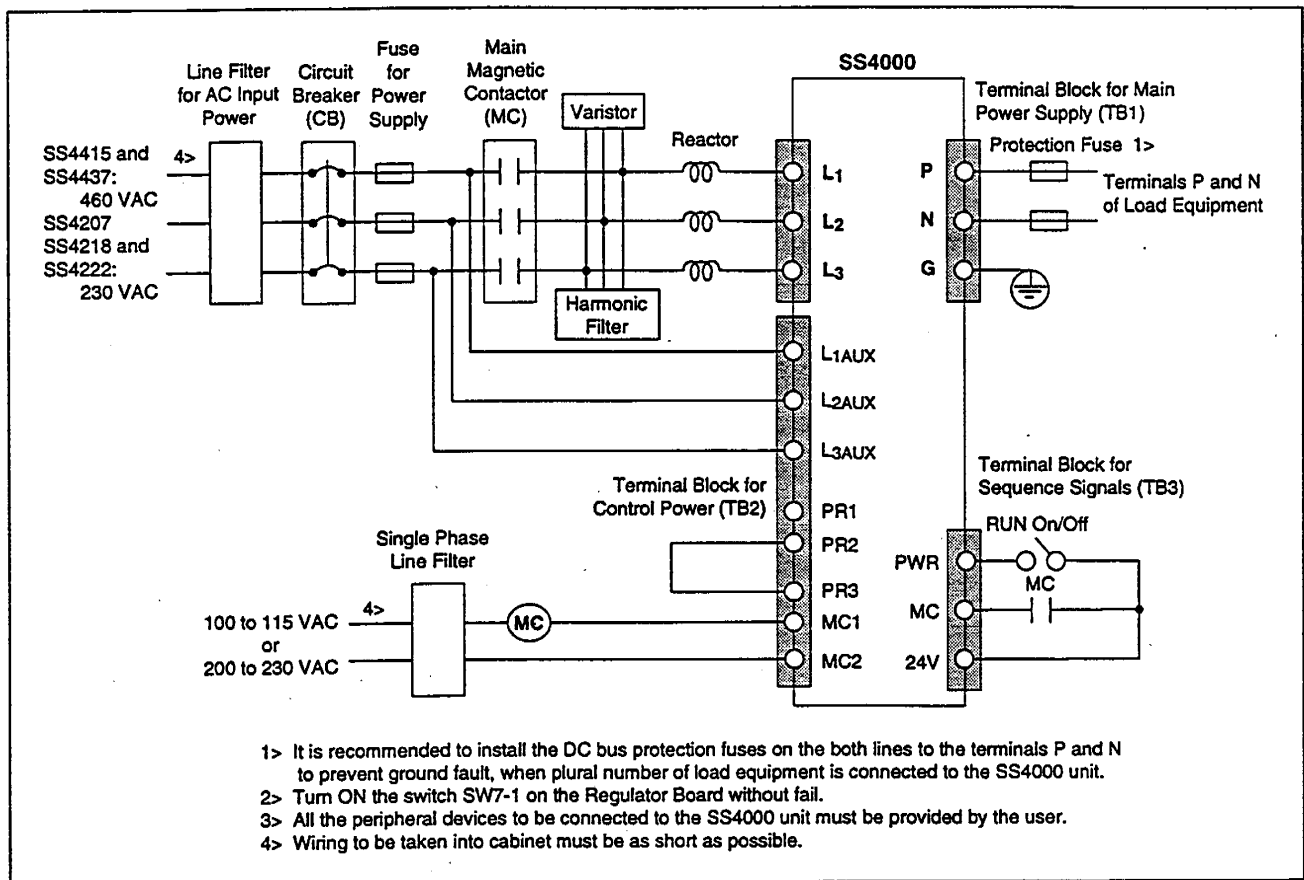

Figure 4.1 – Typical Connection of AC Input Power Wiring for Single Unit of Model SS4415, SS4437, SS4207, SS4218 and SS4222 Units
Figures 4.1 to 4.3 show typical connection of AC input power wiring for Model SS4415, SS4437, SS4207, SS4218 and SS4222 units. Figure 4.1 shows AC input power wiring for the single unit, and Figures 4.2 and 4.3 show AC input power wiring for parallel connection of two units and three units respectively. Install appropriate reactors, magnetic contactors, disconnects, line filters, etc. at the positions shown in these figures.
To protect AC input power, install a circuit breaker with supplemental contact (CB) in the AC input power line. Refer to Figures 4.1 to 4.3 for the wiring. The rated ampacities of the circuit breakers are as follows:
The SS4000 unit uses a magnetic contactor for turning the main power supply ON/OFF. Install and wire the main magnetic contactors as shown in Figures 4.1 to 4.4.
Install an adequate harmonic filter as shown in Figures 4.1 to 4.5 to remove higher order harmonics generated by switching operation of Power Modules, from AC input power. The following are the recommended harmonic filter and wire size.